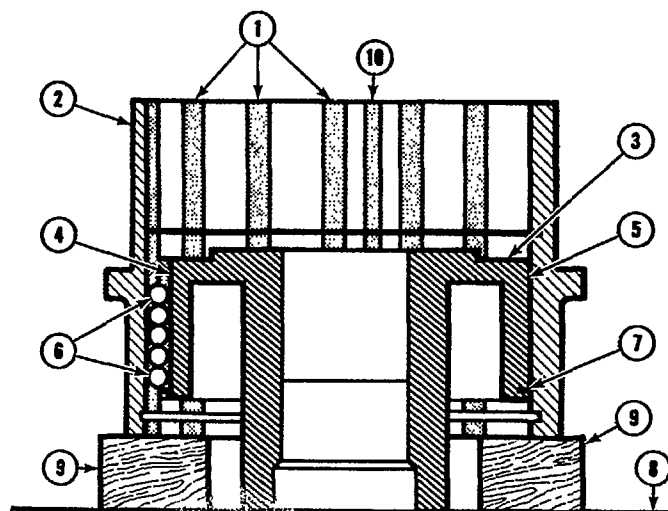

Figure 25
2. Place a wood block on each side of the hub as shown in Figure 25.